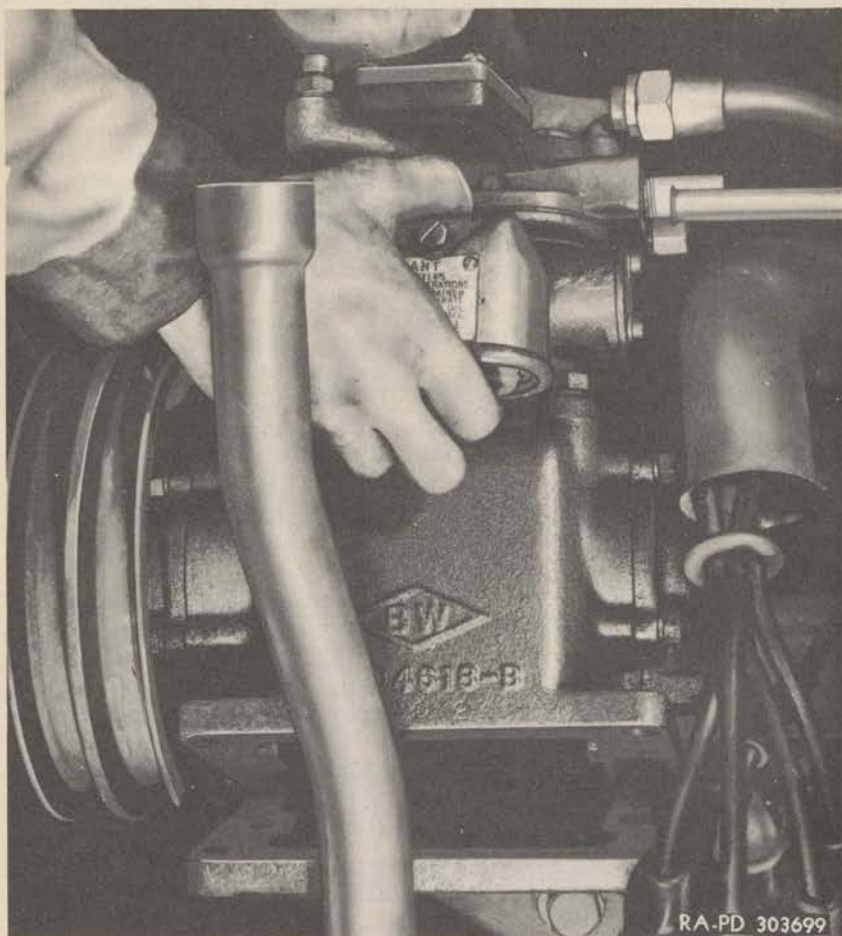

Figure 125—Removing Air Compressor
- (4) **DISCONNECT WATER LINES AT COMPRESSOR CYLINDER HEAD.** Disconnect the fitting at the upper end of the air compressor water inlet copper tube. Also loosen the hose clamp on the rubber hose running between the air compressor water outlet and the thermostat bypass line, and disconnect the hose from the air compressor.
- (5) **REMOVE AIR COMPRESSOR.** Remove the cap screws and lock washers attaching the air compressor to the engine mounting bracket, and lift the air compressor assembly out of the engine compartment, working it free of the fan belts. Then remove the air compressor mounting gasket (fig. 125).